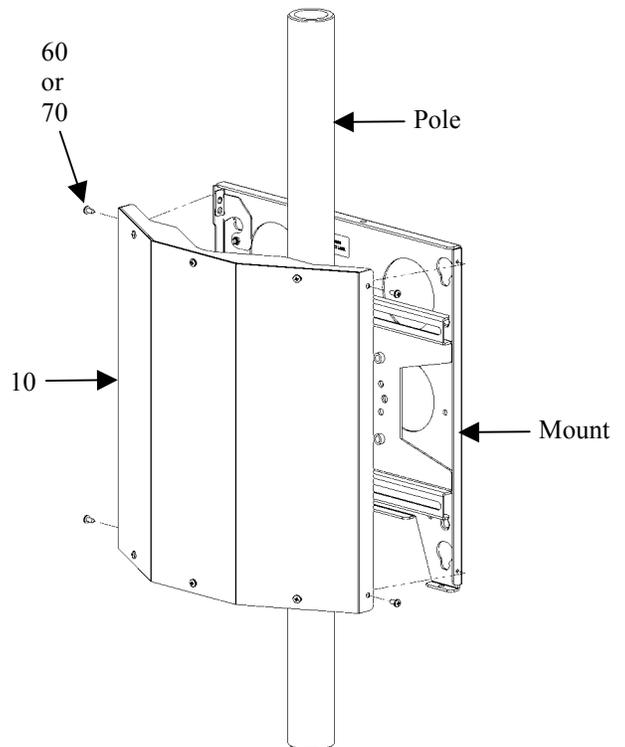

Figure 3. Install the Finishing Cover
1. Place the pole mount cover (10) over the pole mount and pole (see Figure 3).